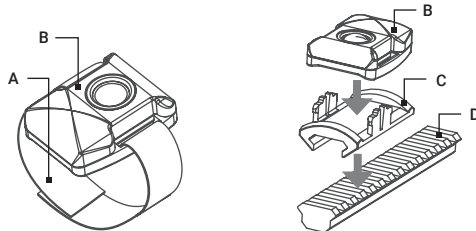

FIGURE 2-7. WIRELESS REMOTE CONTROL
- Using a turning machine, cut the inside face of the ring (E). The value of cutting (in millimeters) is equal to the value of turning angle (in angular degrees) divided by 360°.
- Screw the ring (E) into the Front Scope Mount's body with its cut end directed inwards and tighten it.
- After applying a small amount of thread lock to the threads, affix the ring (E) with the two M2×2.5 screws (F).
Using Velcro tape (A), fasten the Wireless Remote Control (B) (Figure 2-7) to your weapon in an easily accessible place (e.g., on the front of the rifle stock) on the side of the Comanche-22's control compartment preferably.